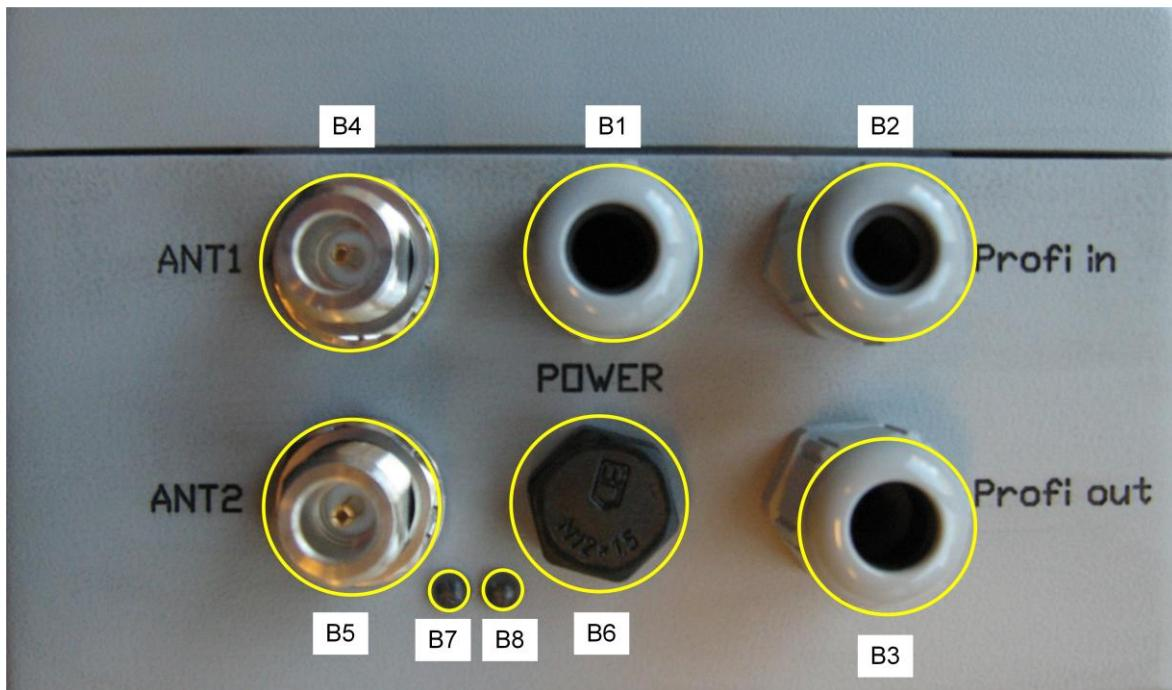

Figure 15: Connections of the LPR® unit with Profibus interface
The casing has cable glands for power cable (B1) and for the Profibus (B2, B3). Figure 15 shows the front of the LPR®-1D casing in detail.
- For LPR units with Profibus interface and optional relays please use one cable for relay wiring with additional wires for power supply through cable gland B1 "Power", see Figure 15.